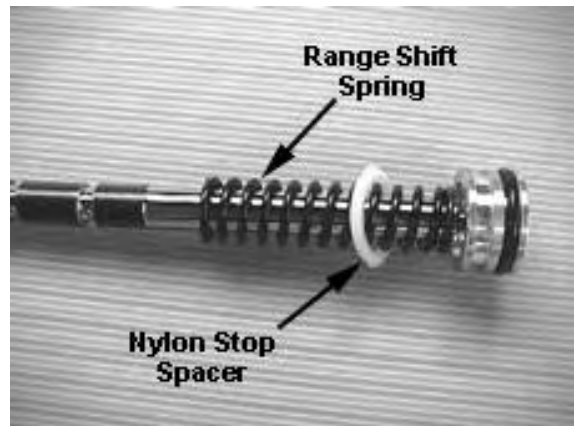

Fig. 88
48. Insert the range shift shaft (containing the shaft, nylon stop ring, and range shift spring) into the housing passing it through the range shift forks. See Fig. 88.